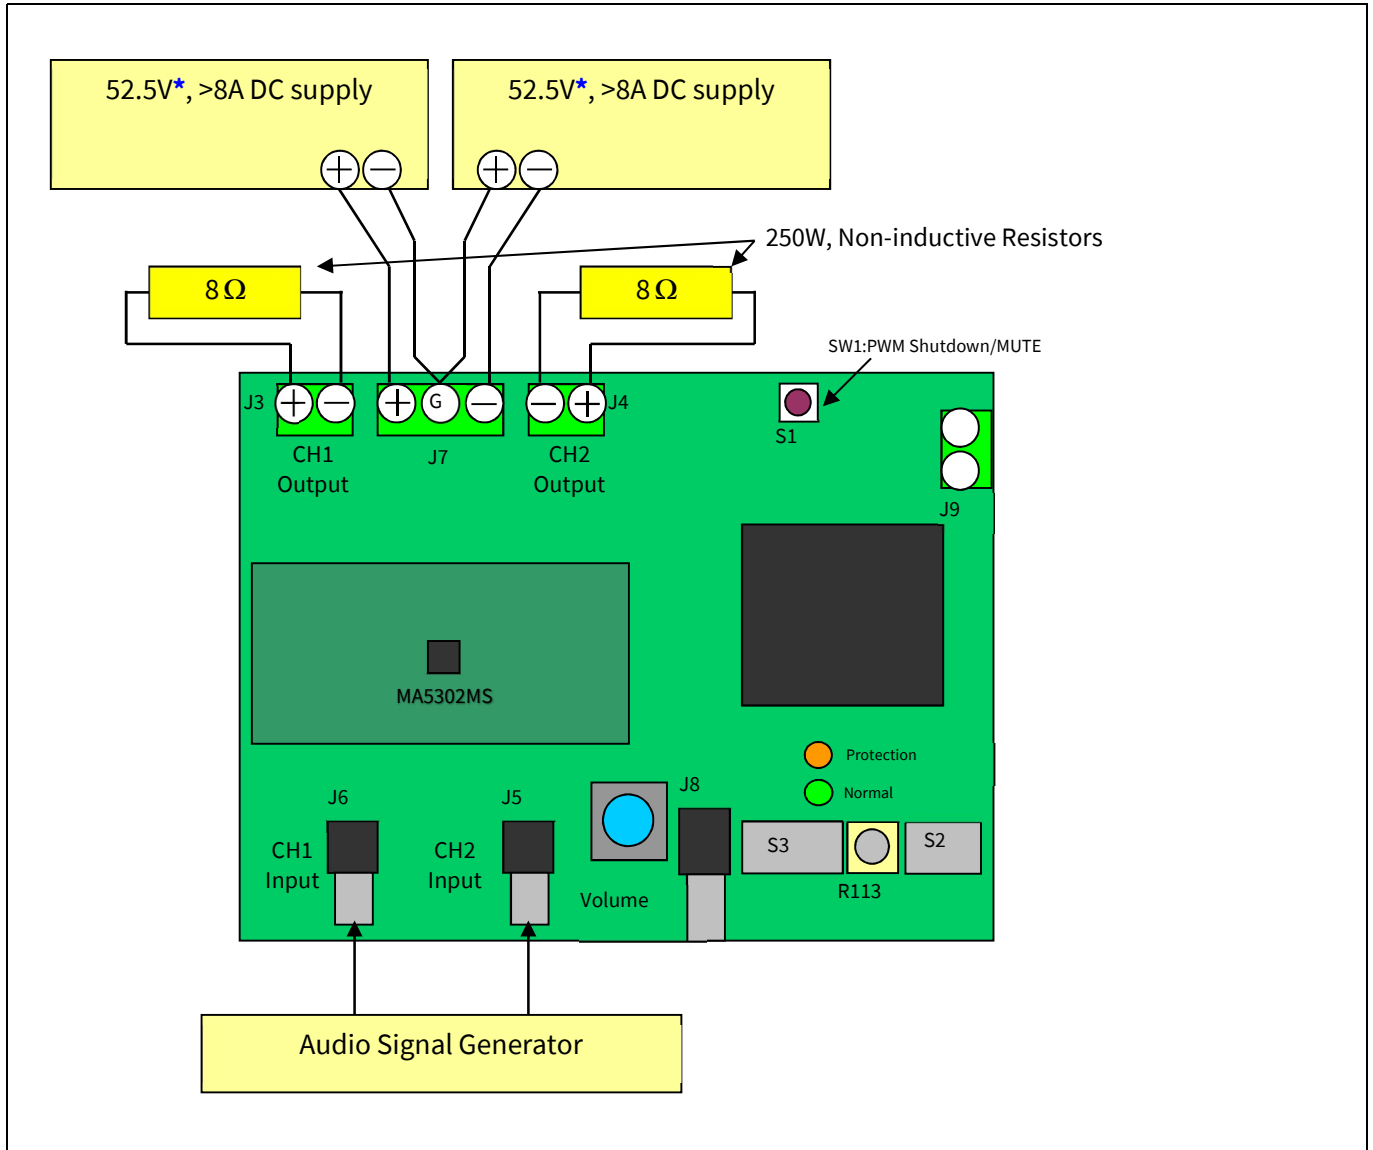

Figure 2 Typical connection connector description
1. Connect 8  $\Omega$  250 W dummy loads to output connectors (J3 and J4 as shown in Figure 2) and parallel it with the input of the Audio Precision (AP) analyzer.
2. Connect the Audio Signal Generator (ASG) to J6 and J5 for CH1 and CH2 respectively (AP).
7. Connect the dual power supply to J7, as shown in Figure 2 or Figure 3